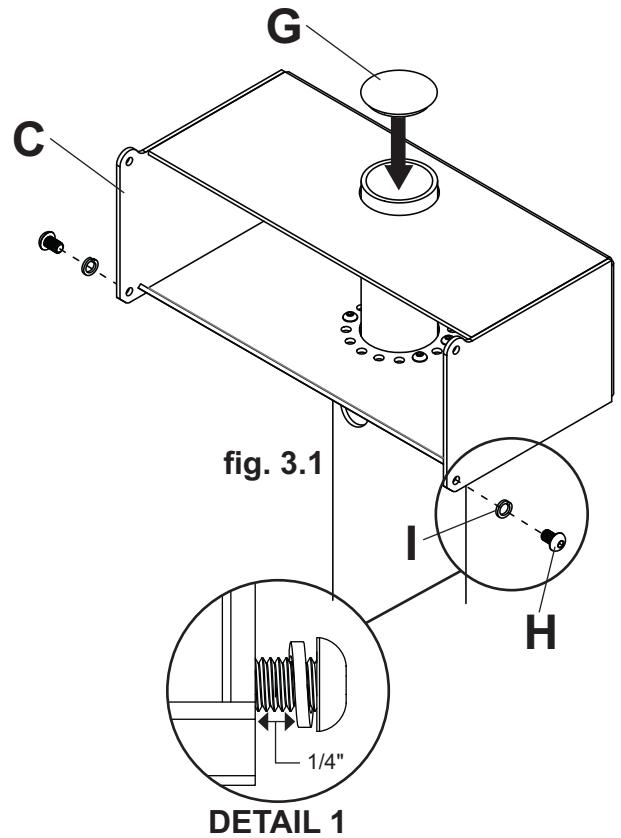

fig. 3.1
Insert two M10 x 16 mm socket screws (H) and two split lock washers (I) into bottom of adapter box (C) leaving 1/4" exposed thread as shown in figure 3.1 and detail 1.